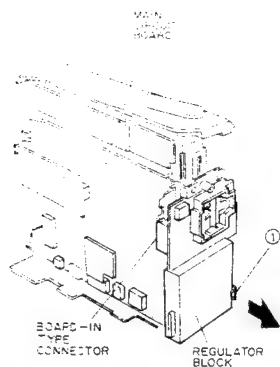

Fig. 2-30
- 1) Release one (1) tab and remove the regulator block from the main circuit board in the direction of the arrow. (The regulator block and main circuit board are connected via board-in type connector.) (See Fig. 2-30)